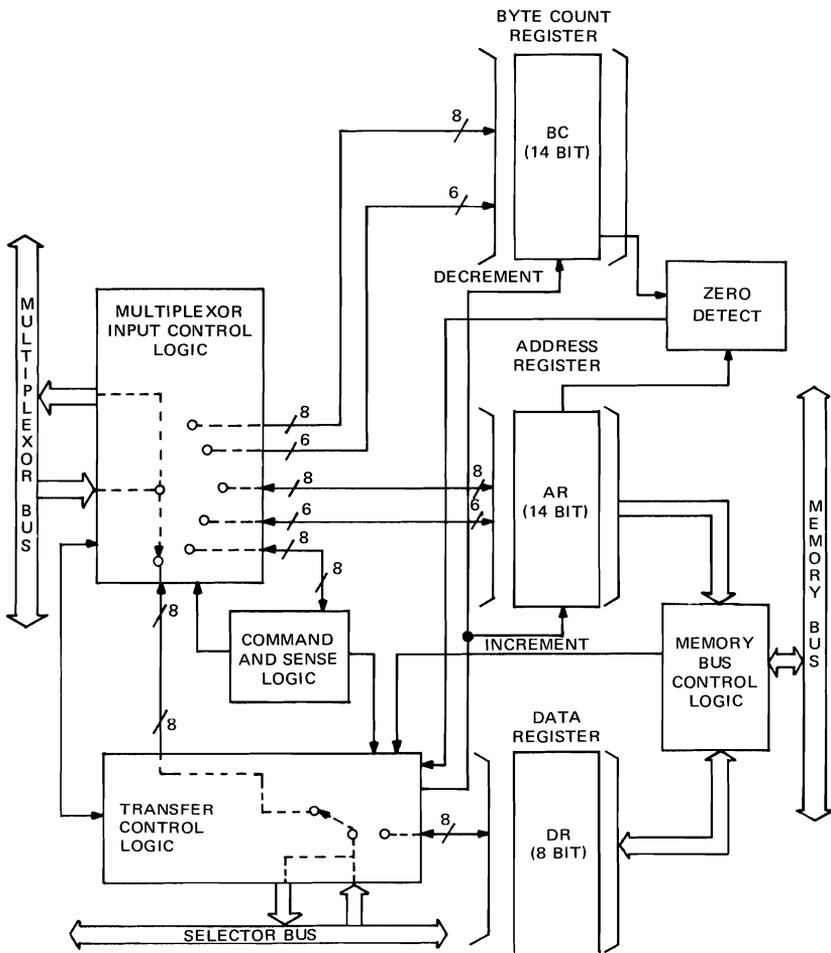

Figure 5-3. Selector Channel, Block Diagram
Figure 5-3 is a Block Diagram of the Selector Channel. Address lines to, and data lines to and from, the Memory Bus are shown on the right side. The Memory Bus Control Logic (one of several arbitrary functional groupings used only for purposes of this block diagram) gates an address to the Memory Bus and data to or from the bus depending upon the direction of transfer. The Selector Channel Data Register (DR) stores the eight-bit data byte to/from memory. The transfer Control Logic gates the data between the Selector Bus (shown on the bottom) and the Data Register in eight-bit bytes. The address circuits are shown in the upper right area. The Byte Count Register (BC) is loaded in two bytes from the Multiplexor Bus. The Address Register (AR) is loaded with the starting address in two bytes. After each byte of data transfers to/from memory, the BC is decremented and its contents checked against zero. When  $BC = 0$ , a terminate signal is
The Multiplexor Bus is shown on the left side of Figure 5-3. Note that the Multiplexor Bus may be gated to any one of the six places. The gates are functionally represented by a six position rotary switch. With the gating as shown, and assuming the Transfer Control Logic is also as shown, the Multiplexor Bus is gated directly to the Selector Bus. This is the condition which exists when the Selector Channel has